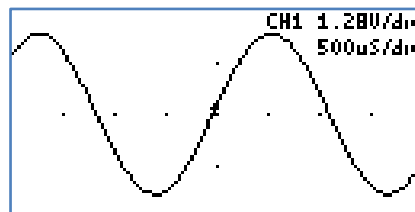

Figure 14: Quick start
- Press and hold the K1 key (auto setup). The screen should look like figure 14.